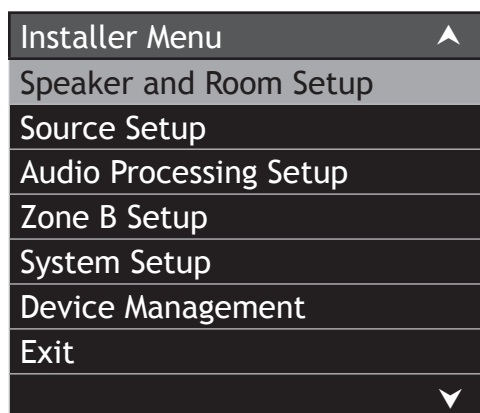

Figure 20
1. Press the SETUP Push-button to enter the Setup Mode. Using the Up▲ or Down▼ Push-buttons to highlight “Speaker and Room Setup” and press the SELECT Push-button. Refer to figure 20.